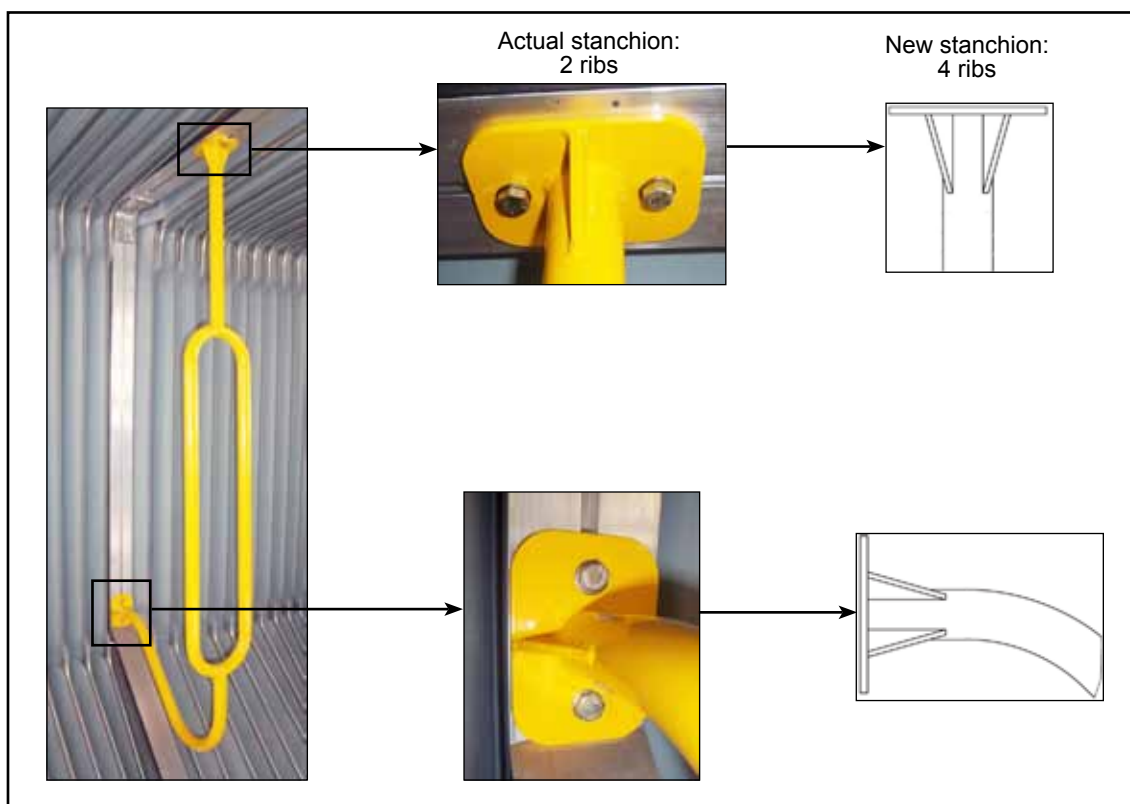

Figure 1 - Typical Stanchion in the Articulation Area
- 1.1 Unbolt the two stanchions located in the articulation area. Retain the hardware. See Figure 1.